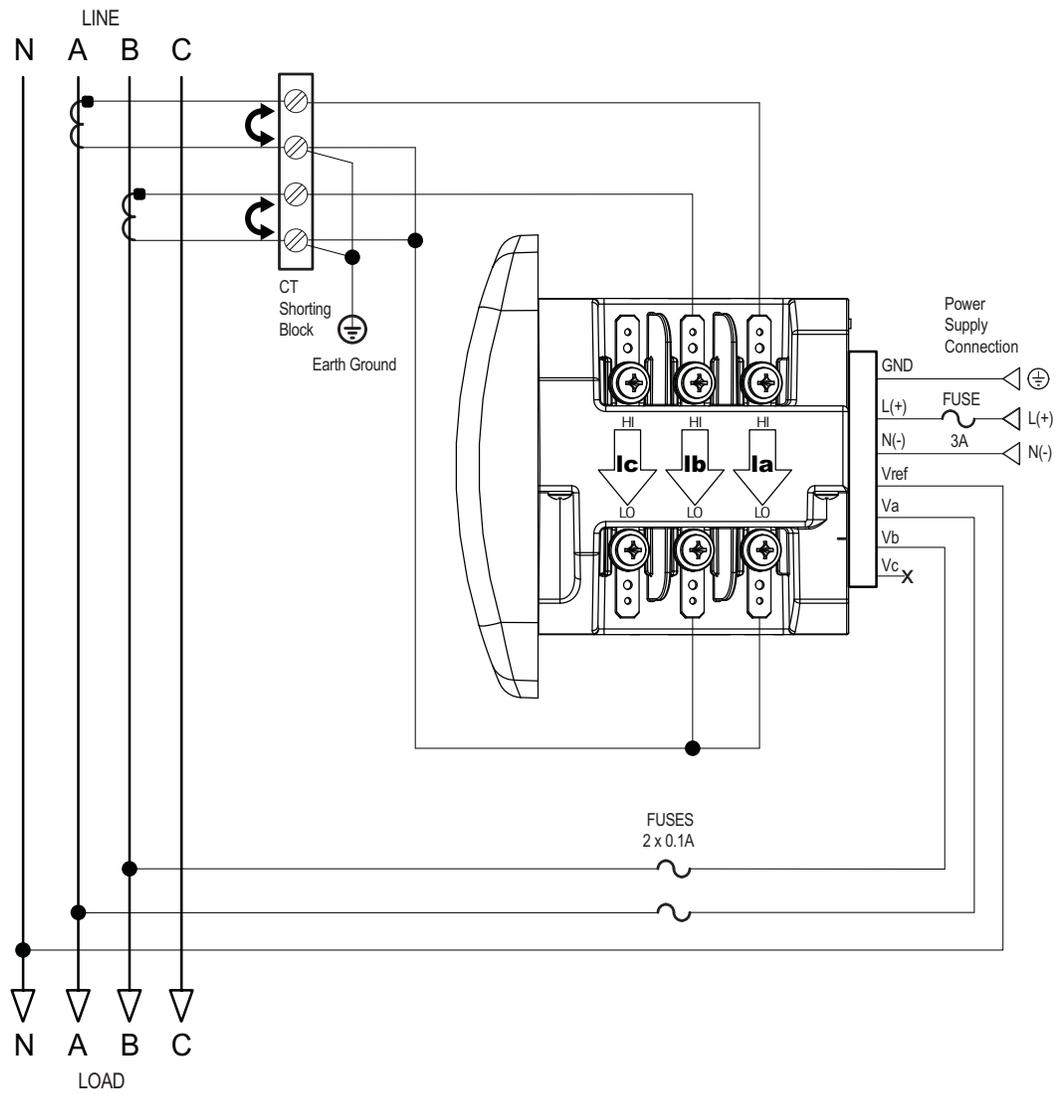

Figure 4-6: Example of Dual Phase Hookup
- Figure 4-6: *Example of Dual Phase Hookup* on page 4-9